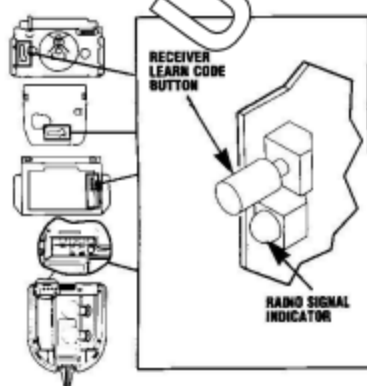

Fig. 1
- Step 2-2** Press and release the Learn Code Button **Fig 1**.